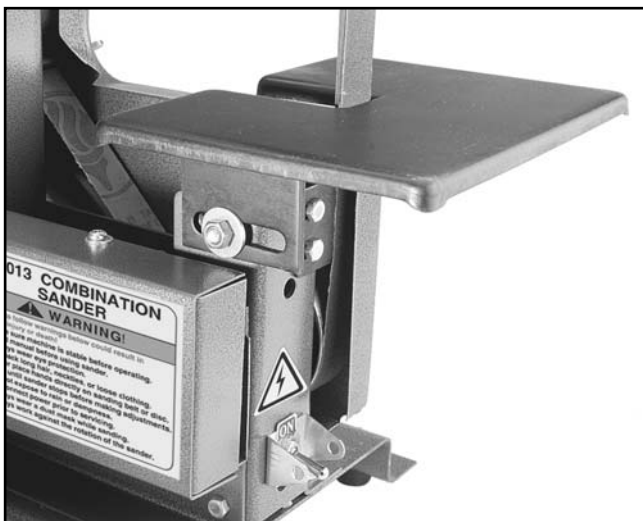

Figure 10. Belt table attached to sander.
10. Install the belt table using the $\frac{5}{16}$ " - 18 x $\frac{5}{8}$ " carriage bolt, $\frac{5}{16}$ " fender washer and $\frac{5}{16}$ " - 18 hex nut. **See Figure 10**.